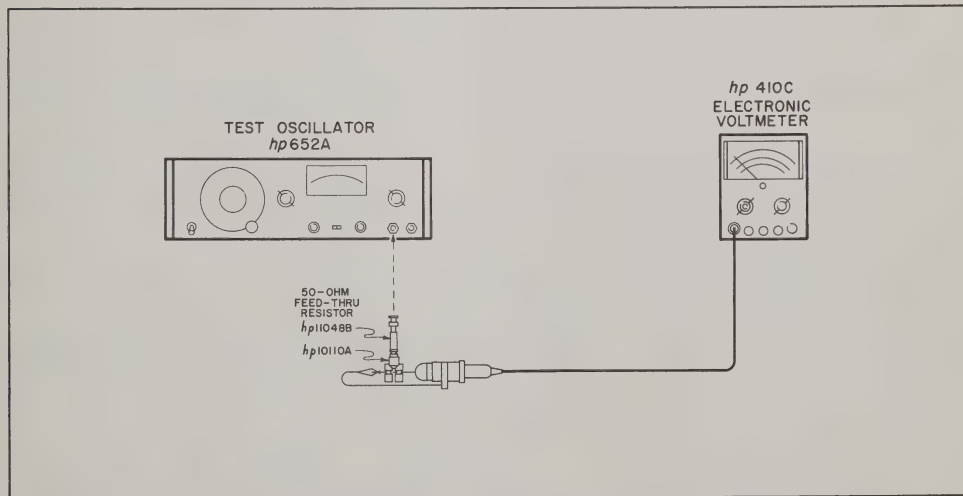

Figure 5-3. Low Frequency Response Test
- Connect Model 410C as shown in Figure 5-3.